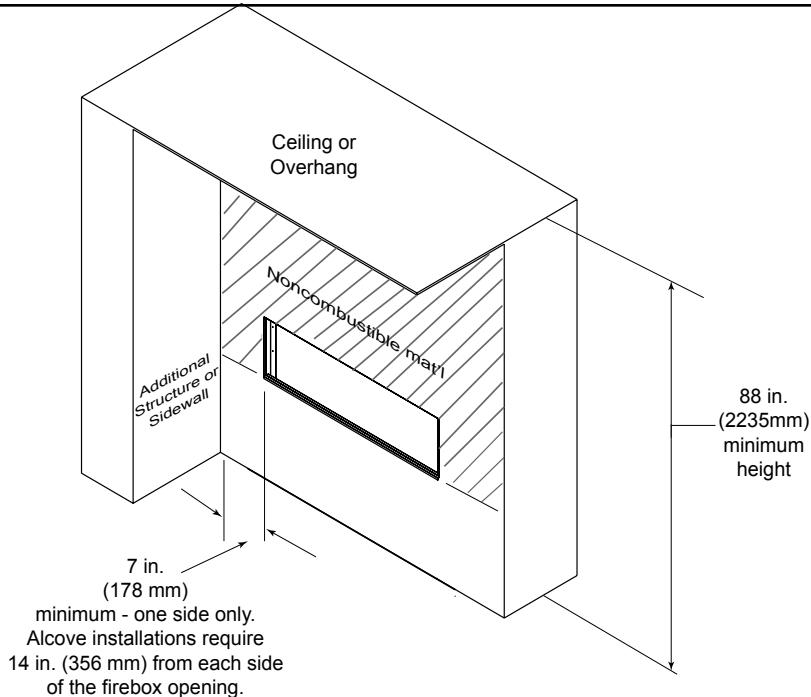

Figure 3.6 Clearances to Combustibles
- Noncombustible wall sheathing material is required from bottom of appliance opening to ceiling. (See Figure 3.6)